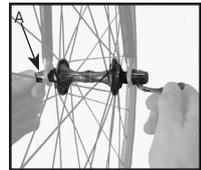

Figure 33- Tighten nut
2. With the lever about halfway between the **OPEN** and **CLOSE** positions, tighten the adjusting nut (Figure 33) until finger-tight.